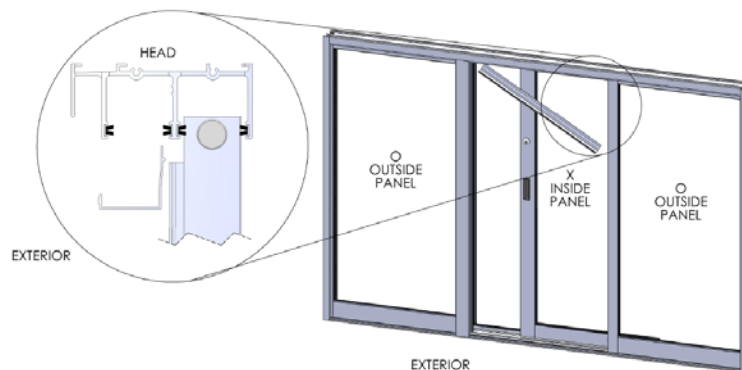

Figure 25:
4. Install the head closer between the false jamb and the right side fixed panel (Figure 25).